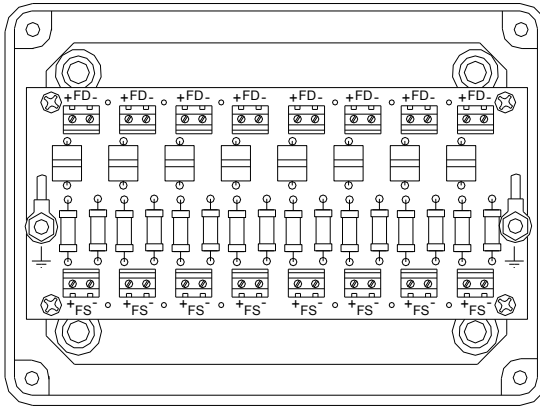
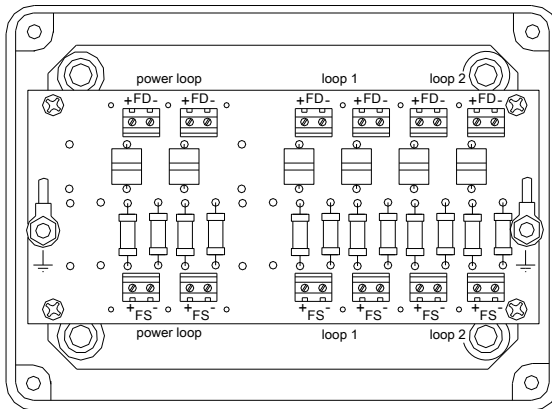

Fig.1
Fig.2
4.1. Connecting method (fig.1 DNP 508) (fig.2 DNP 5082)